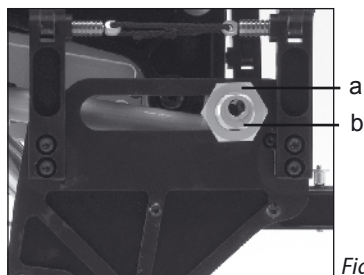

Fig. 10
Loosen the fixing nut (Fig. 10 a) with a SW 41 screwdriver, push the socket (Fig. 10 b) along the slot and tighten the nut again with a torque of 75 Nm.
In case the symmetric adjustment to the frame should be changed (Fig. 10 a), please proceed as follows:
1. Loosen the aluminium nuts SW 41 (Fig. 10 a) on both sides